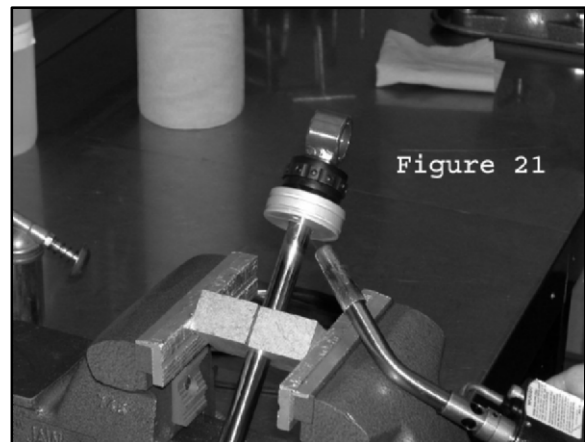

Figure 21
47. Using proper shaft clamps, mount shaft securely in vise. (Fig. 21) NOTE: A very high level of clamping force is required to prevent shaft from spinning in the clamps. Allowing the shaft to spin can cause permanent damage to the shaft and may cause the shock to leak.
48. Heat eyelet flange with a torch to loosen the thread-locking compound that secures the eyelet to the shaft. (Fig. 21) Extreme caution is to be used when operating a torch. Refer to the torch manufacturers owner's manual for proper operation instructions. Follow all safety guidelines.